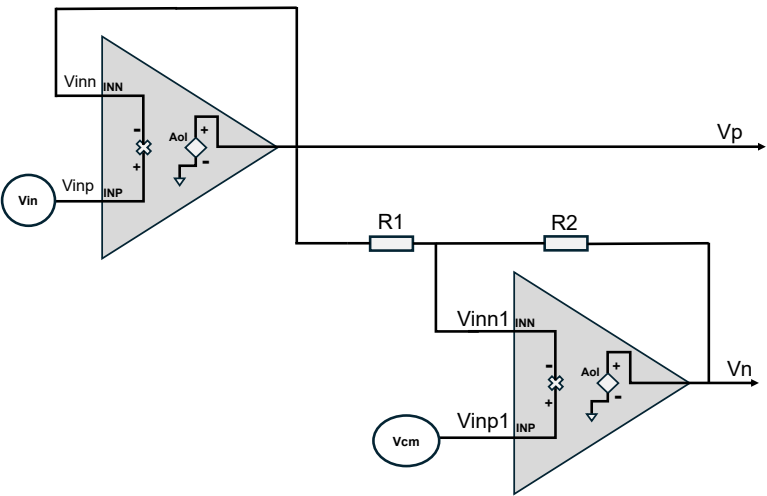

Figure 9. Single end to differential circuit
Figure 9 shows a circuit, which uses two OPAMPs to achieve single end input to differential output. Based on the principle of OPAMP, derive Equation (25) and Equation (26) as follows:
Therefore, from the circuit shown in Figure 9, the single signal V_{in} can be transferred to differential signals V_p and V_n . The V_p and V_n can be used as the differential ADC inputs.